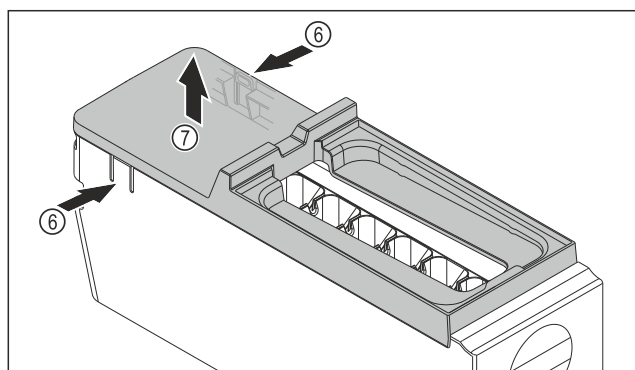

Fig. 189
- ▶ Removing the EasyTwist-Ice body cover: Push the tabs Fig. 189 (6) on both sides of the EasyTwist-Ice body with one hand.
- ▶ Use the other hand to remove the cover Fig. 189 (7) upwards.